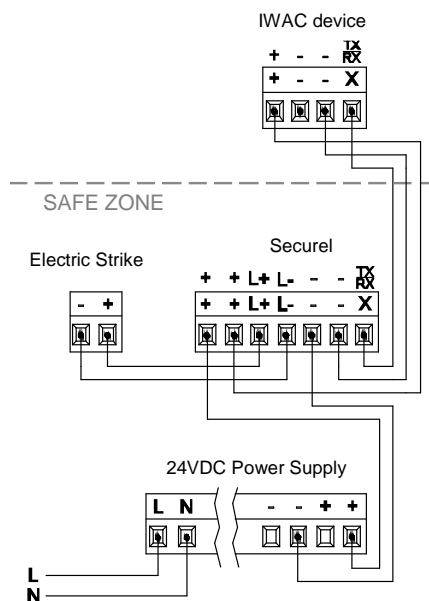

Figure 3. Access Control System connection diagram.
- **Inputs (4):** input ports for the insertion of the stripped cables of external elements such as switches / motion detectors / temperature probes, etc. One of the two cables of each element need to be connected to one of the slots labelled “1” to “2”, while the other cable should be connected to the slot labelled as “C”. Note that all the external input devices share the “C” slot for one of the two cables. Please secure the connection by means of the onboard screws.
- **Auxiliary power supply (8):** external power of IWAC Display is supplied from Securel (see Figure 3).
- **Encrypted communication port (9):** input port to connect with Securel to make it possible the communication between both devices.
Figure 3 shows a connection diagram of IWAC, Securel, power supply and electric strike: